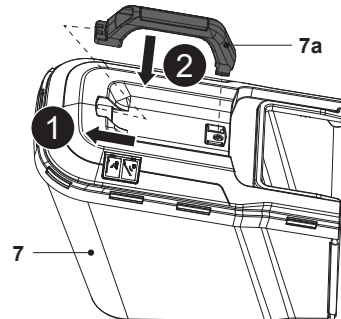

Fig. 6
- Assembly the carry handle (7a) into the two assembling slots on the top frame of grass catcher (7), paying attention to the correct orientation (Fig. 6).